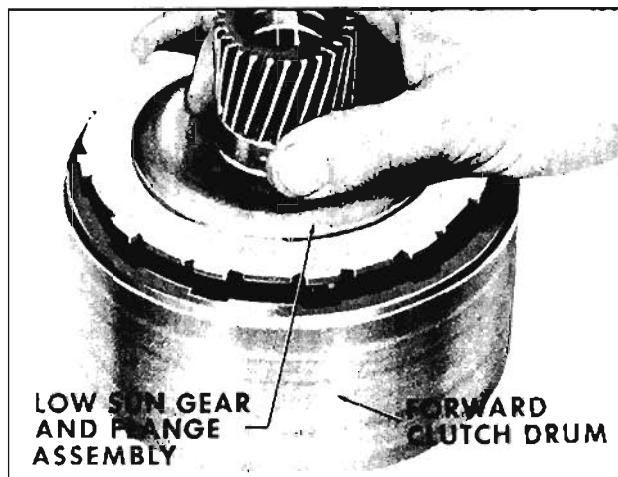

Fig. 6-347 Removing Low Sun Gear and Flange Assembly
2. Remove low sun gear and flange assembly. (Fig. 6-347)